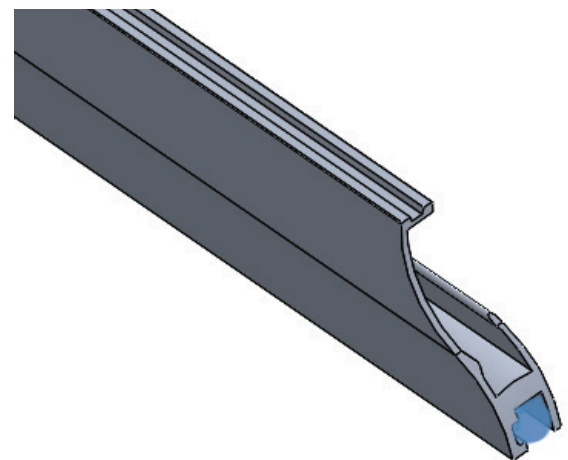

FIG 18.
- When you are confident the track fits neatly and correctly in place, remove sliding door track and place a generous bead of silicone in the underside groove of the sliding door track (FIG 18). **DO NOT PUT THE SILICONE BEAD ABOVE THE DOORWAY.**